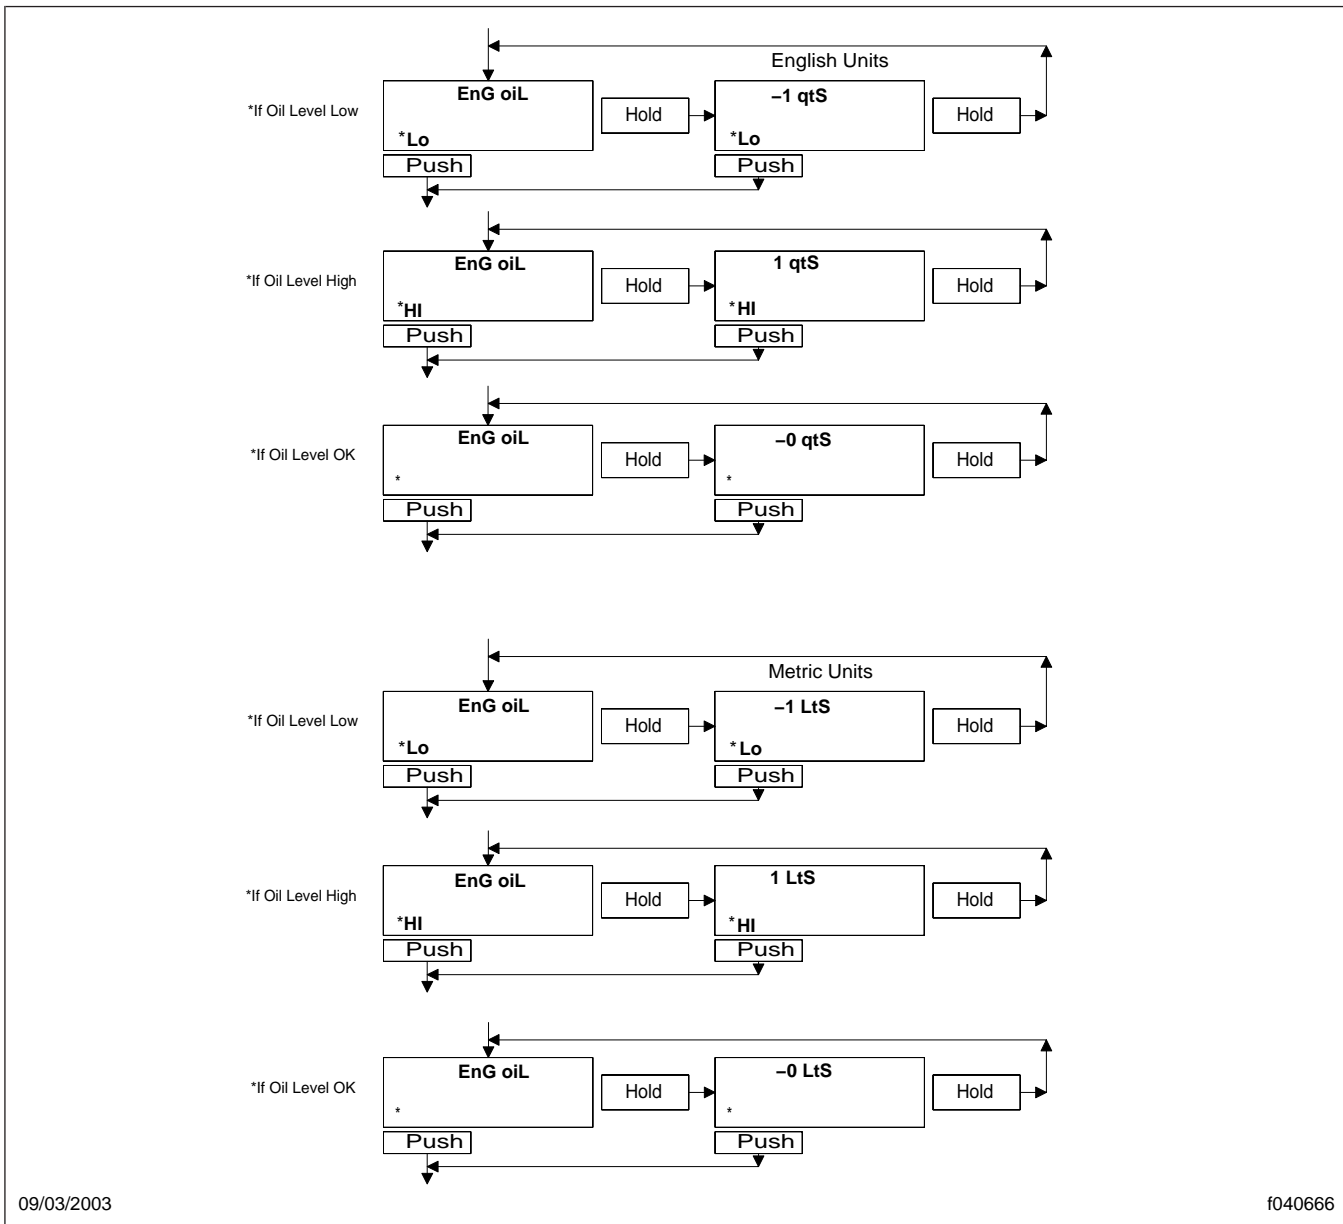

Fig. 6, Mode/Reset Switch Oil Level Screens
- See **Fig. 6** for Mode/Reset Switch Oil Level Screens.